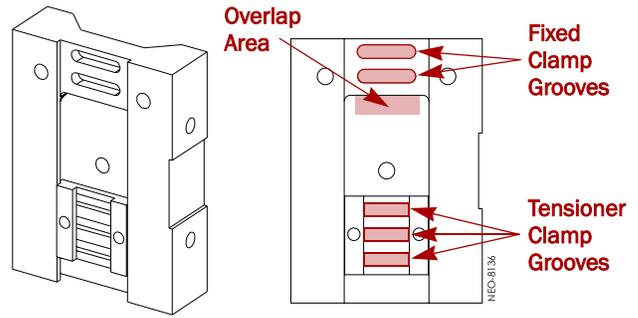

Figure 5. Clamp Grooves on the Backplate
6. Remove the **old belt** noting the number of teeth in the clamp grooves (Figure 5).